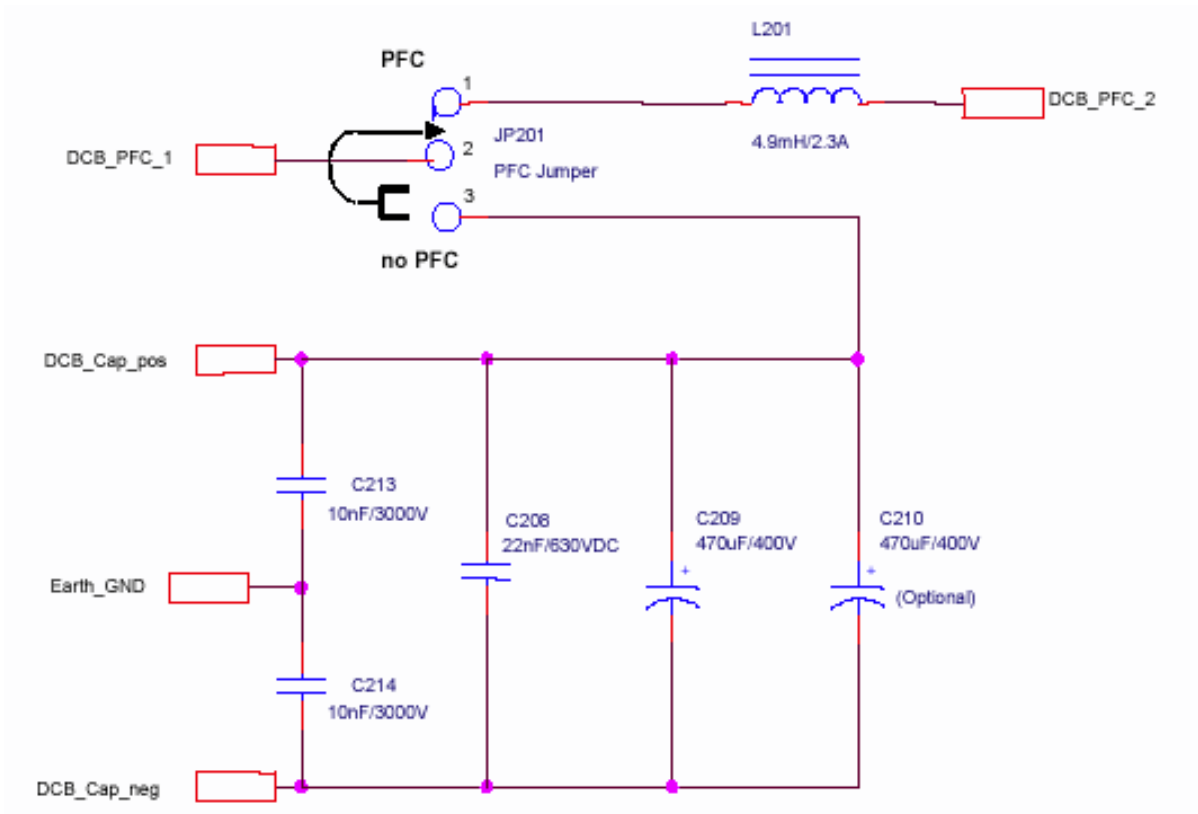

Figure 1-4. PFC Jumper
6. The HV SR power stage is shipped with power factor correction (PFC) disabled. If power factor correction is desired, it is necessary to remove and re-solder power jumper JP201 from the no PFC position to the PFC position. This jumper is found on the left side of the top board, between the dc bus capacitor and PFC inductor. Circuit connections are illustrated in **Figure 1-4**. For first time setups, operation without power factor correction is recommended.